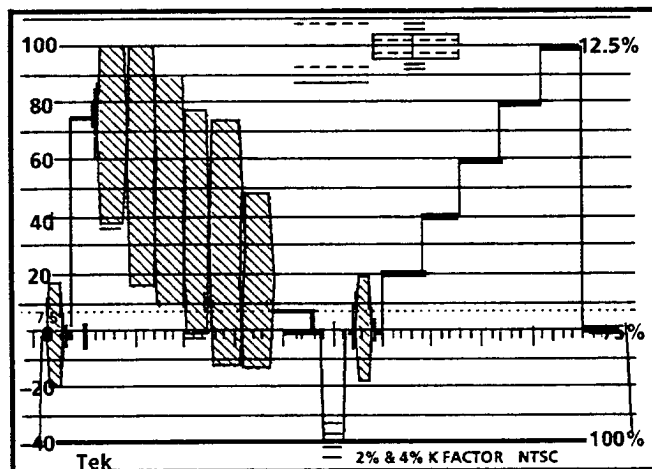

Figure 1–4: Dual channel, 2 line display of a color bar signal (CH 1) and a linearity signal (CH 2)
- c. Center the display with the HORIZONTAL Position. See Figure 1–2.
See Figure 1–2.
- c. Push and hold the channel (CH1/CH2, etc) button until both the ANLG, CH-1, and CH-2 front-panel indicators are on. Check that both the color bar and linearity waveforms are displayed. See Figure 1–4.